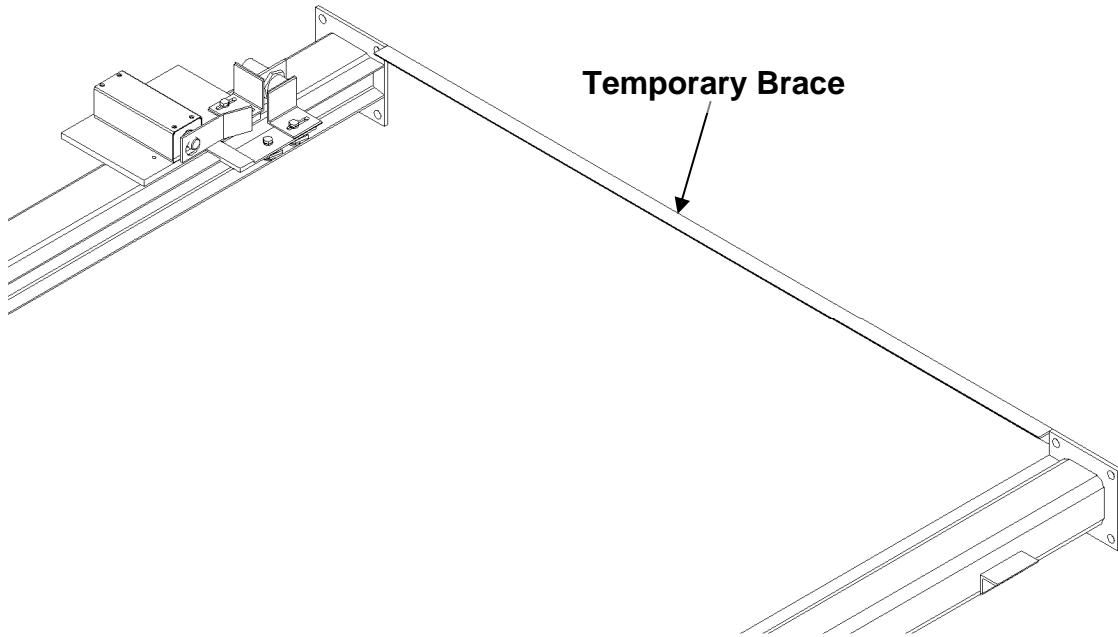

Figure 10 - Temporary Bracing
7. Clamp or tack weld a piece of angle, channel, or other appropriate material as a temporary brace across the bottom of the gate posts at the same dimensions as the top (header angle) assembly (see **Figure 10**).